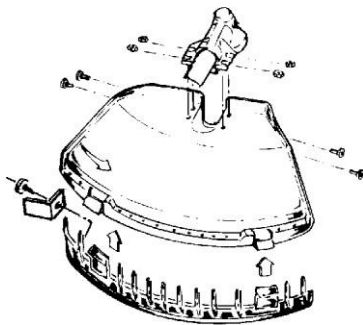

Fig. 10
**Safety guard:** (Fig. 10). The safety guard must be fastened directly to the bevel gear pair case using the 4 fixing screws and nuts provided at the fixed distance from the cutting accessory required by CE standards. The type of safety guard to be assembled must be selected on the basis of the cutting accessory used.